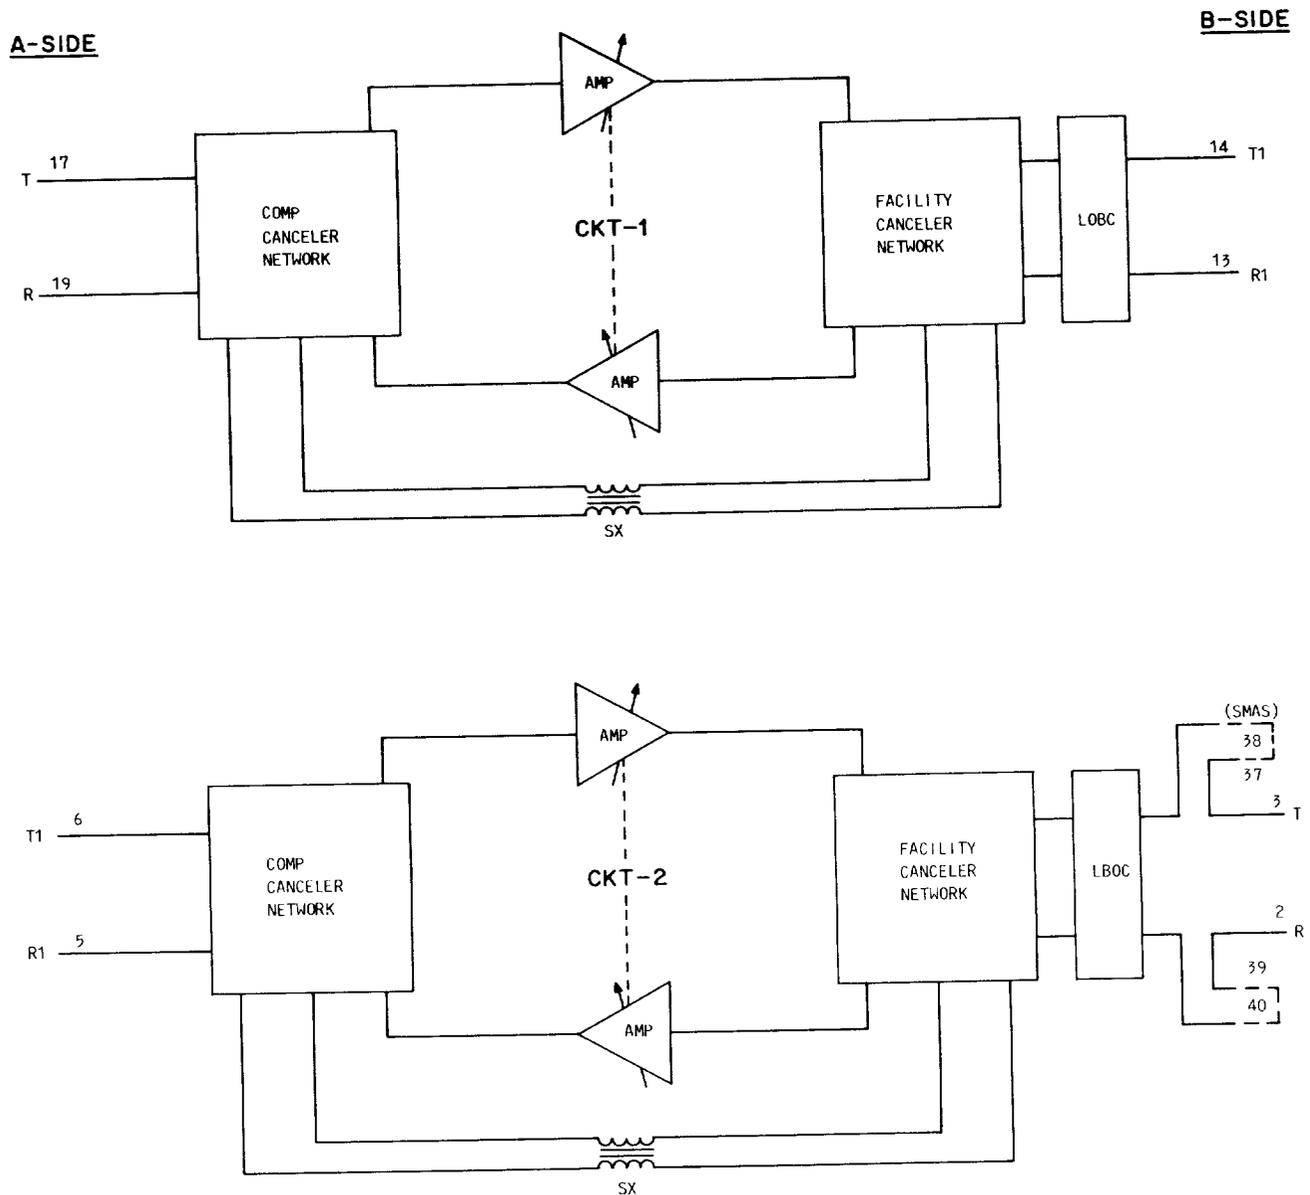

Fig. 2—Block Diagram, J99343PL (L1 and L2)
in the PL, L1 unit provide gain and equalization for 2-wire circuits between terminal equipment and loaded facilities. Additional functions and equipment, described in the following paragraphs, are applicable to both repeaters in the PL, L1 unit. Figure 2 shows a block diagram of the J99343PL, L1.
3.01 The J99343PL, L2 dual repeater unit which provides the same functions as the J99343PL, L1 repeater, has been designed to accommodate two power supply control switches. These switches, described in paragraph 3.12, allow the -48 Vdc power to be disconnected from one or both repeaters in the PL, L2 unit. When one repeater of the PL, L2 unit is not used, power to this repeater can be disconnected thereby preventing a singing condition in this unused repeater. The J99343PL, L2 terminal repeater is shown in Fig. 3. Each of the two repeaters contained in the PL, L2 unit provides gain and equalization for 2-wire circuits between terminal equipment and loaded facilities. Additional functions and equipment, described in the following paragraphs, are applicable to both repeaters in the PL, L2 unit. Figure 2 shows a block diagram of the J99343PL, L2.